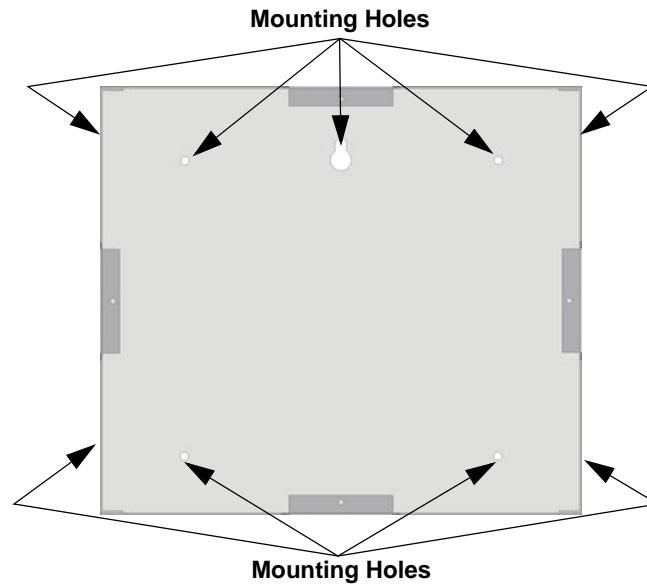

Figure 4-10 Back Box Mounting Holes
1. The back box dimensions are 9 9/32" W x 8 3/8" H. The minimum depth required is 2". The back box can be mounted prior to the complete installation of the Unimode 600ANN using any of the mounting holes shown in Figure 4-10.